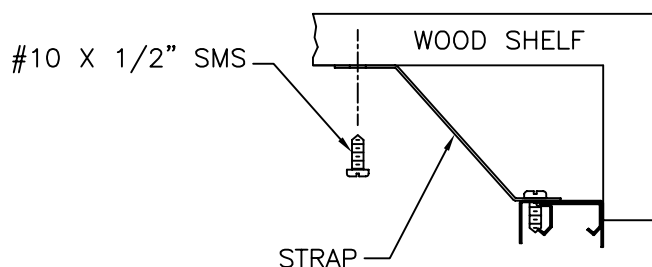
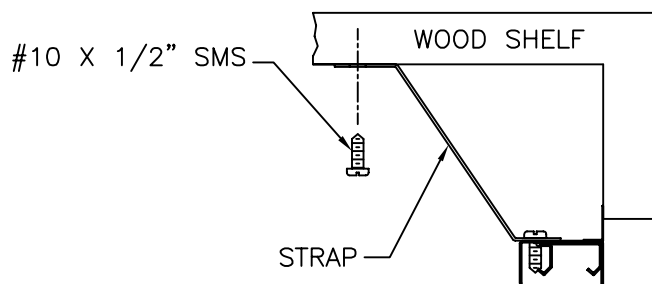

FIGURE 7A
FIGURE 7B
- A. BEND DOORKIT STRAPS AS SHOWN. SEE FIGURE 7A, WHEN DOORKITS REST ON AN S-SERIES SHELF OR FIGURE 7B FOR NT STYLE SHELF.